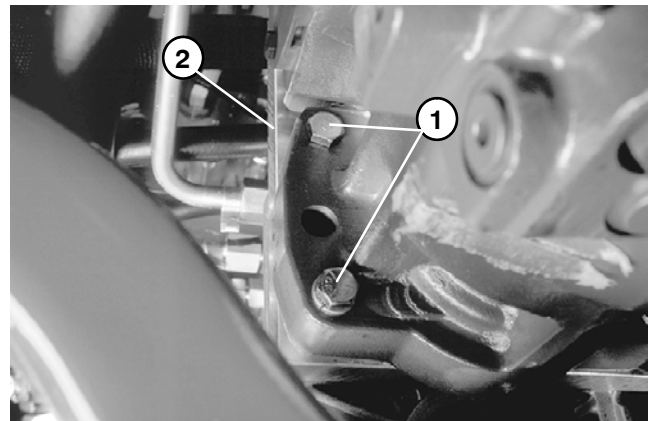

Figure 39
8. Support the transmission to prevent it from falling while carefully removing four (4) cap screws and lock nuts retaining transmission to support plate. Carefully pull transmission off of support plate and lower it out of the machine (Fig. 39 and 40).
5. Carefully position transmission to the support plate while raising it into the machine. Support transmission to prevent it from falling while carefully installing four (4) cap screws and locknuts securing transmission to support plate. (Fig. 39 and 40).